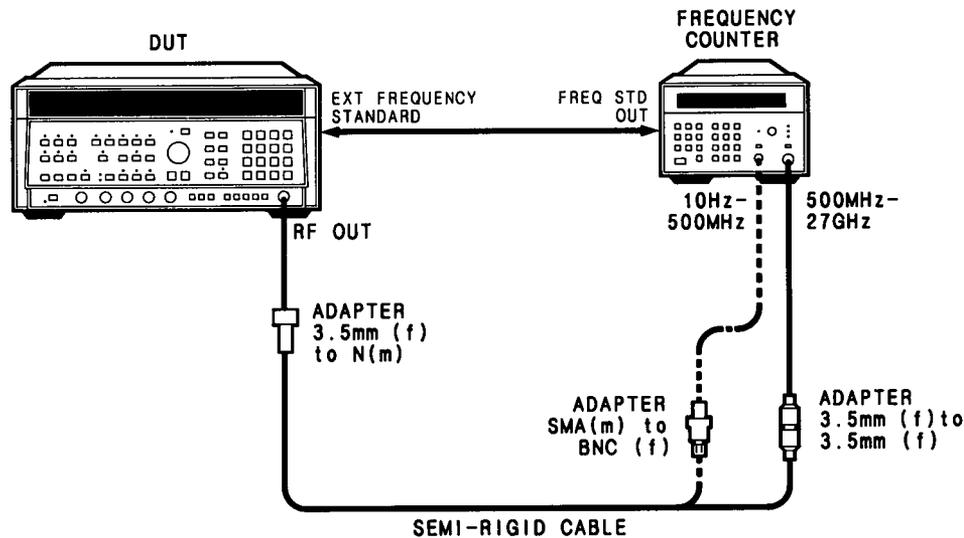

Figure 4-2. Frequency Range Test Setup
1. Connect the equipment as shown in Figure 4-2. Connect the DUT RF Output to the 10 MHz-500 MHz counter input. Allow the equipment to warm up for one hour. The DUT and the frequency counter use the same frequency standard to eliminate time base error from the measurement. Set the DUT rear panel FREQUENCY STANDARD switch to EXT.